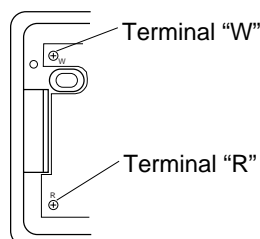

Figure 25 - Thermostat Base Terminal "W" and "R"
7. Connect one bare wire end to each terminal ("W" and "R") of the thermostat base (see Figure 25).